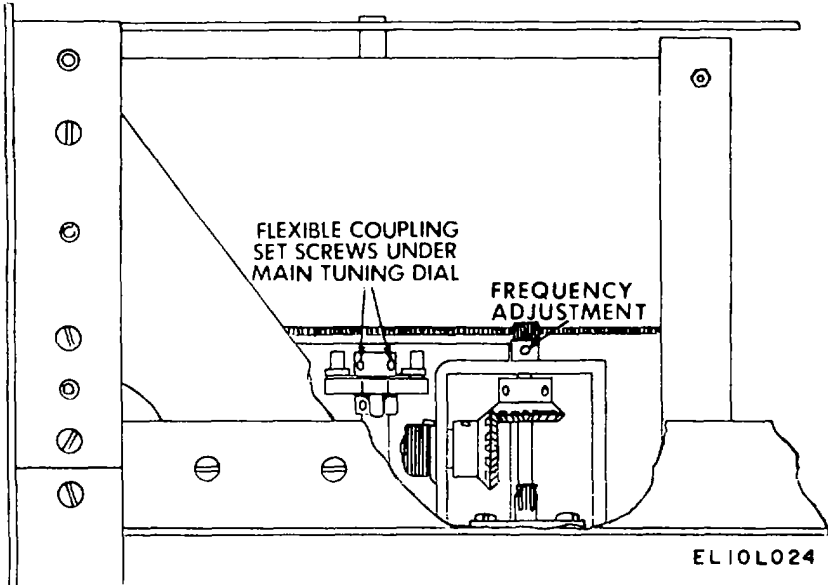

Figure 7-16. Tuning dial adjustment
- b. Gently rotate main tuning drum through its travel. Drum should rotate approximately 1 inch past end of calibrate scale on each end. If not, reset flexible coupling setscrews (fig. 7-16).